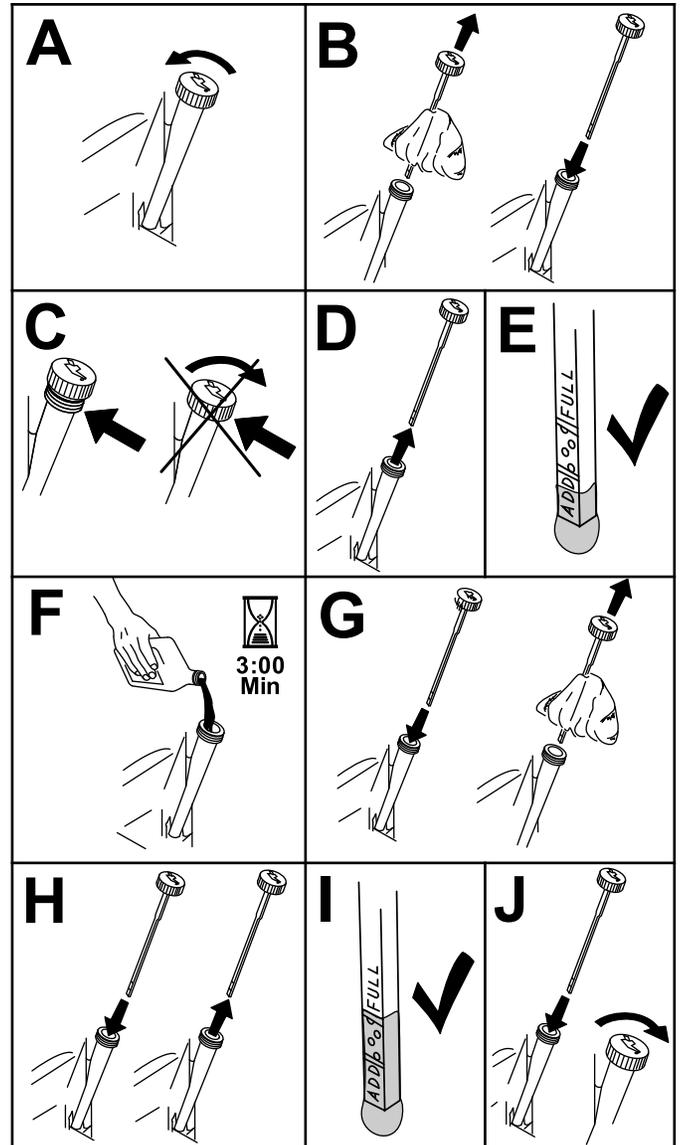

Figure 39
3. Check the engine-oil level as shown in (Figure 39).